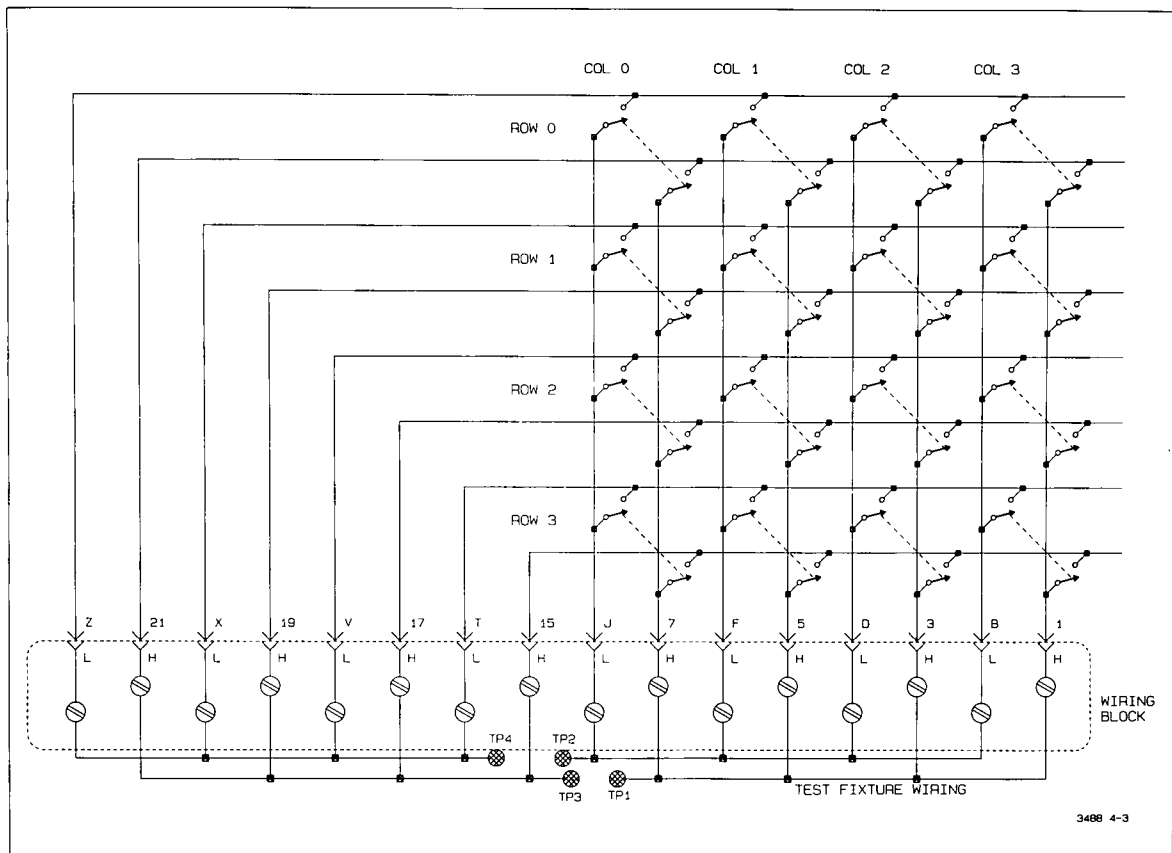

Figure 4-3 Matrix Card Test Configuration
The Matrix Card consists of 16 double-pole single-throw (DPST) relays arranged in a 4 channel by 4 channel switching matrix.* As shown in Figure 4-3, each channel has a low line and a high line which are switched in unison. The test fixture (see Figure 4-3) consists of (1) a short circuit between all of the low line inputs, (2) a short circuit between all of the low line outputs, (3) a short circuit between all of the high line inputs, and (4) a short circuit between all of the high line outputs. With the test fixture installed, and an ohmmeter connected between the inputs and outputs of either the low lines or high lines, the card is tested by successively closing each relay while checking for the indication of a closure with the ohmmeter.